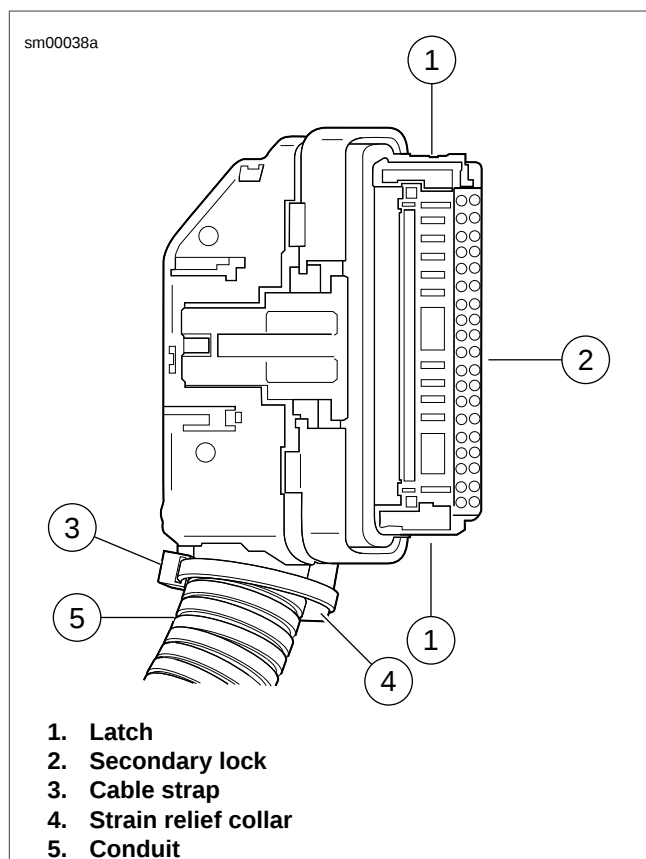
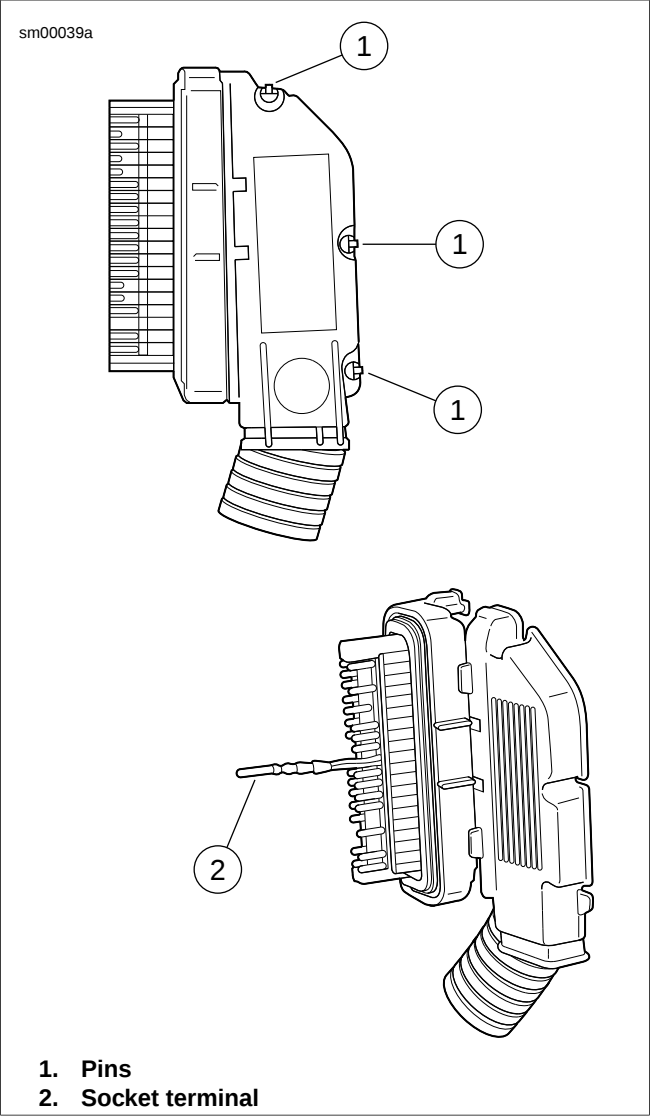

Figure A-7. Delphi 100W Micro-Pack Sealed Connector
Figure A-8. Delphi 100W Micro-Pack Sealed Connector:
1. See Figure A-7. To remove, gently press latch (1) on each side of the clear plastic secondary lock (2). For best results, release one side at a time.
2. Carefully cut cable strap (3) to free strain relief collar (4) from conduit (5).
3. See Figure A-8. Using a thin blade, gently pry at seam at back of socket housing to release three plastic pins (1) from slots in housing. Separate and spread halves of socket housing.